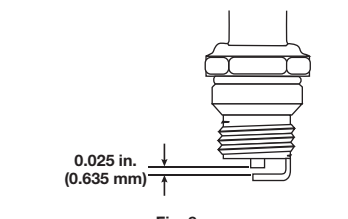

Fig. 8
- Set the air gap, according to specifications, using a feeler gauge (Fig. 8).